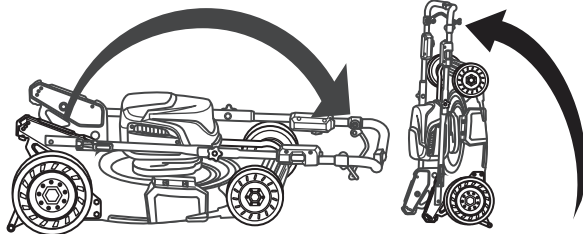

Fig. 13B
4. Release the quick adjusting lever and continue to pivot the handle until you see the lock pin of both sides engage in the locked storage position. You should hear a click when the handle is in the correct position. (Fig.13B)